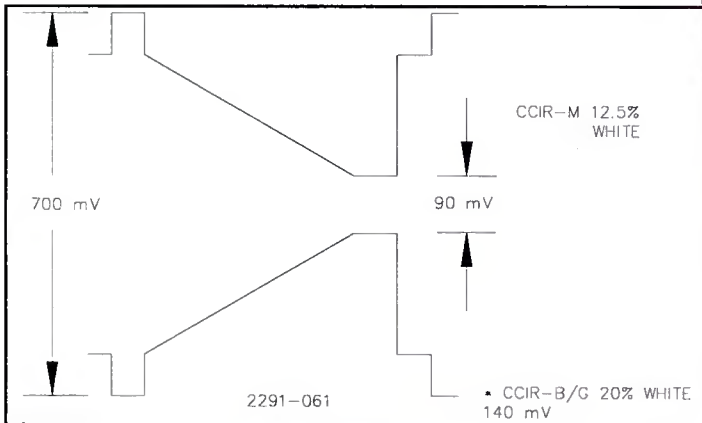

Figure 5-5. Modulator Output Waveform
7. Adjust the modulator video level control for 700 mV at peak of sync and mod bias control for 88mV p-p at white for CCIR - M (12.5% ratio) or 70mVp-p at white for CCIR - B (10% ratio). See Figure 5-5. The two controls interact so it will be necessary to go back and forth until both conditions are achieved at the same time.